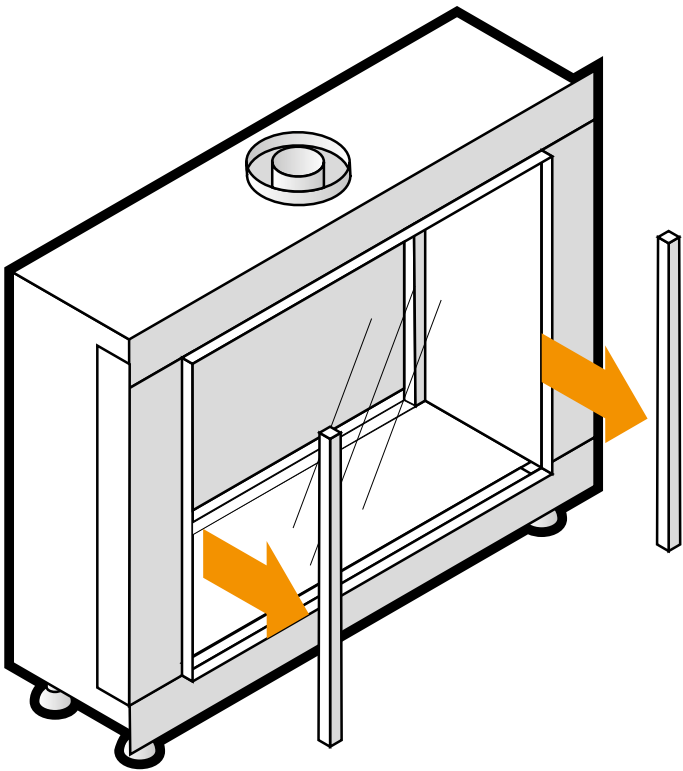

Figure 10-3: Remove Trims
- Remove both the side trims. They are held by magnet snappers, Figure 10-3.